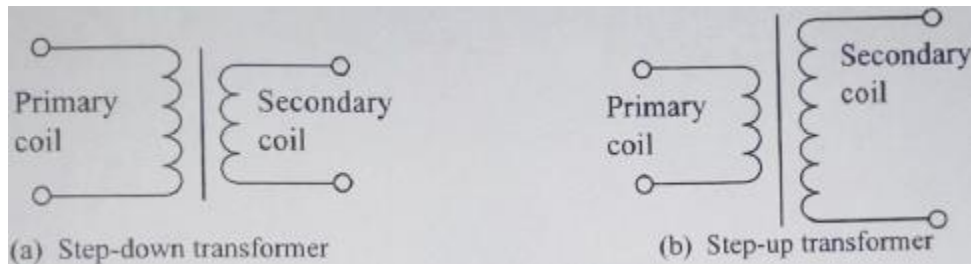

Figure 3: real examples of transformers
- **Figure 3** shows diagrams of real transformers.